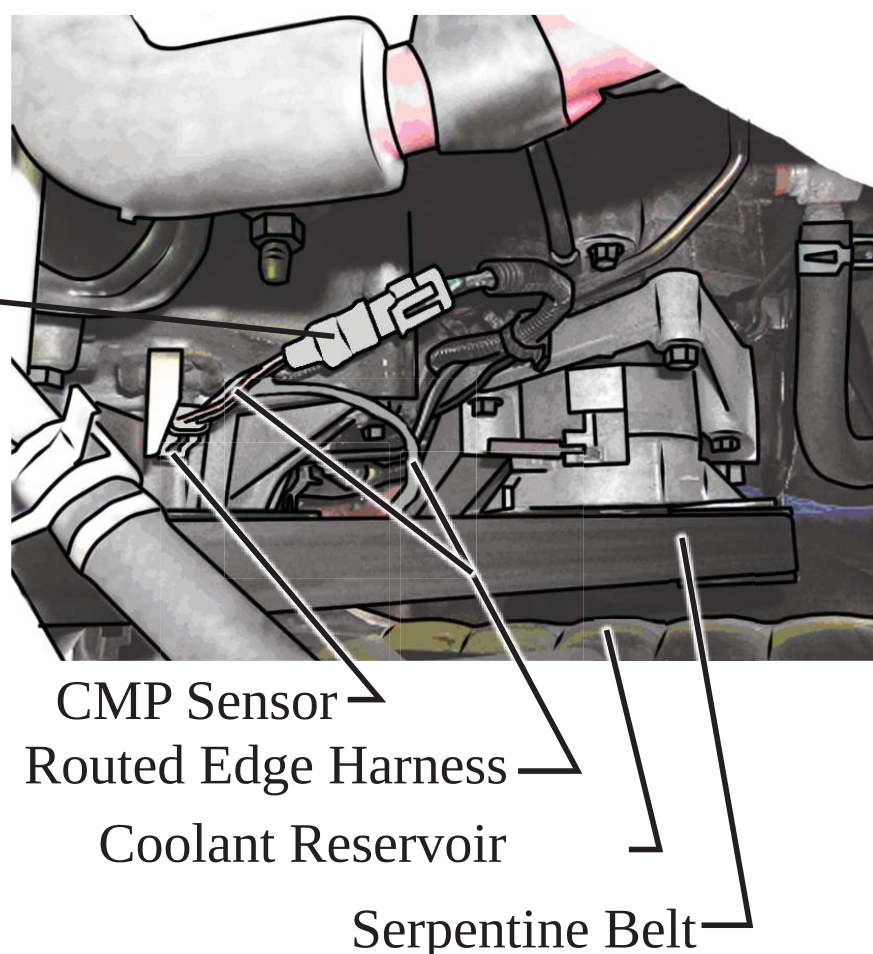

FIGURE 10 - ASSEMBLED VIEW (LOOKING “UP” FROM UNDERNEATH THE TRUCK)
3. Refer to Figure 10. The CMP sensor is located on the front of the engine. Looking “up” from underneath the truck, it will be above and towards the passenger side of the main pulley.